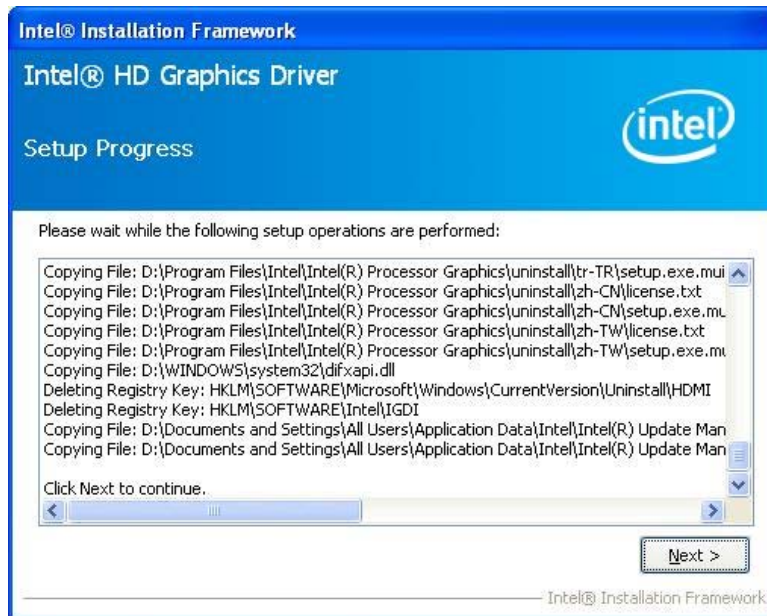

Figure 6-10: Graphics Driver Setup Operations
Step 8: **Setup Operations** are performed as shown in **Figure 6-10**.